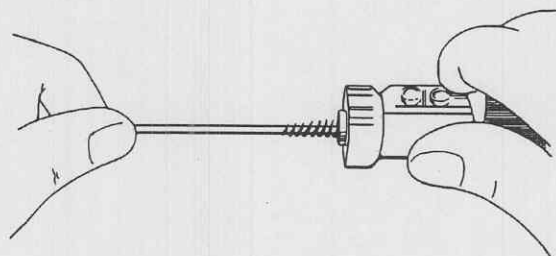

Figure 2-24. Cleaning internal drive socket.
(5) Scrub the handpiece thoroughly with the drive cleaning brush and mild detergent. All traces of blood, coagulated material, disinfectant stains, etc., should be removed, particularly from the internal drive socket (fig 2-24) of the handpiece.